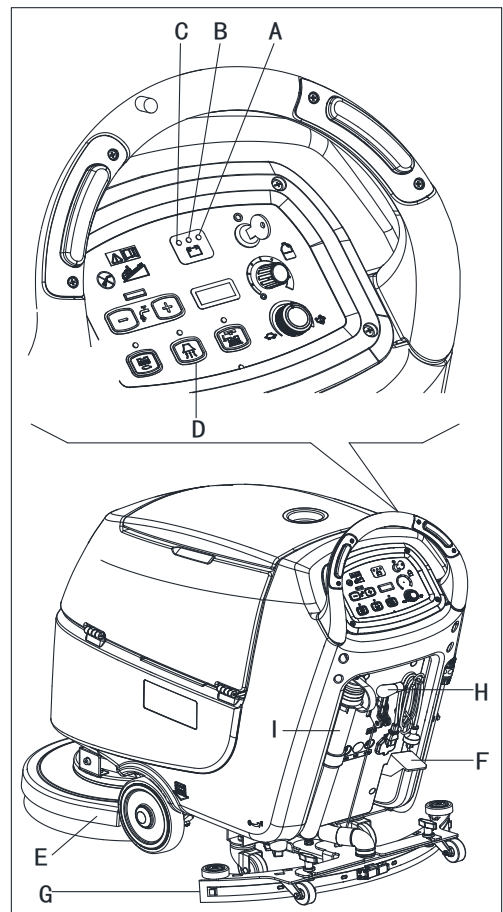
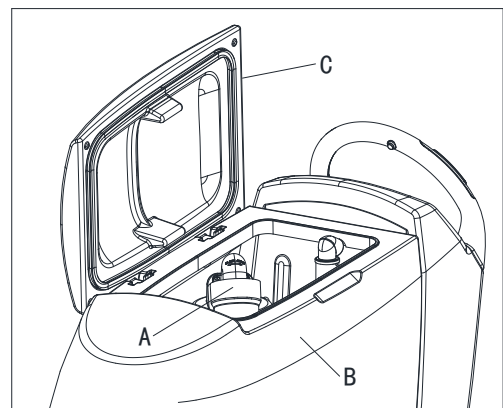

Figure 8
Figure 9
An automatic float shut-off system (A, Figure. 9) blocks the vacuum system when the recovery water tank (B) is full. The vacuum system deactivation is signaled by a sudden increase in the vacuum system motor noise frequency, also the floor has not dried.
If the vacuum system turns off accidentally (for example, when the float is activated because of a sudden machine movement), to resume the operation: turn off the vacuum system by pressing the switch (D, Figure. 8), then open the cover (C, Figure. 9) and check that the float inside the grid (A) has gone down to the water level. Then close the cover (C) and turn on the vacuum system by pressing the switch (D, Figure. 8).
When the recovery water tank (B, Figure. 9) is full, empty it according to the following procedure.
2. Lift the brush/pad-holder deck (E, Figure. 8) by pressing the pedal (F).
3. Lift the squeegee (G) with the lever (H).
5. Empty the recovery water tank with the hose (I). Then, rinse the tank (B, Figure. 9) with clean water.